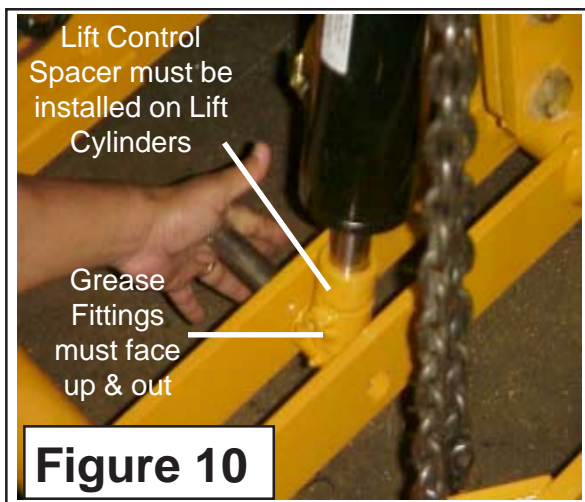

Figure 10
7. Install the Lift and Tilt Cylinders. Install the Lift cylinder and the Tilt Cylinder. When installing these they must be installed with the rod end clevis grease fitting facing up and out (See Figure 10 & 11). The Cylinder for the Left Wing will install the same as the RH side. **The Wing RH & LH Lift Cylinders MUST have lift control spacers installed to control wing lift height (See Figure 10 & 11).** Do not remove any shipping plugs from cylinders or hoses until you are ready to install the hoses, this will keep the system and components clean while unit is being assembled.